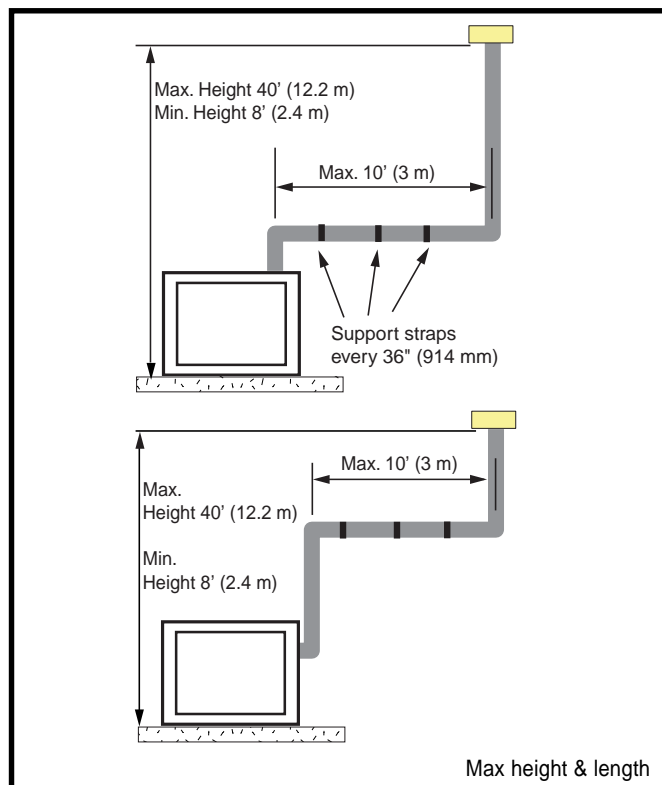

Fig. 31 Support straps for horizontal runs
- Vertical installations up to 40 ft. (12 m) in height. Up to a 10 ft. (3 m) horizontal vent run can be installed within the vent system using a maximum of two 90° elbows (Fig. 31).
- Two (2) sets of 45° elbow offsets may be used within the vertical sections. From zero to max 8 ft. (2.43 m) vent pipe can be used between elbows (Fig. 31).